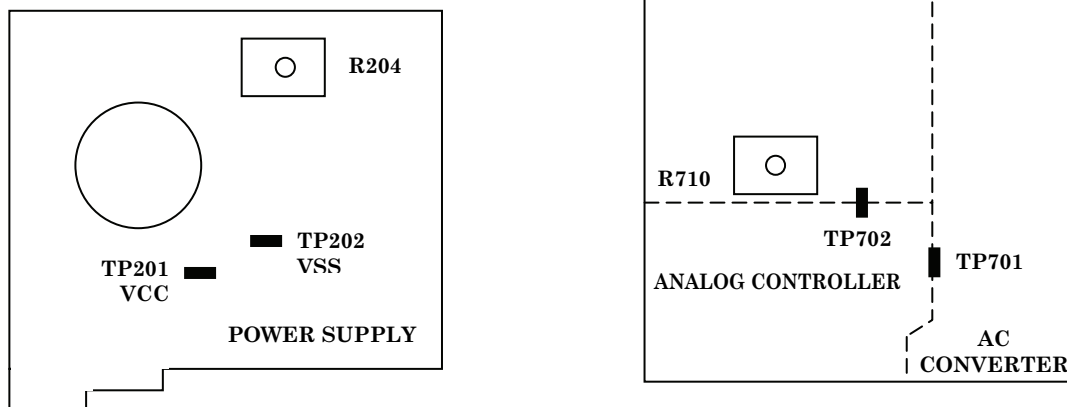

Figure 3. Power supply - adjustment locations.
(1) Connect multimeter **INPUT HI** to TP201 VCC and **LO** to TP202 VSS (fig. 3). If multimeter does not indicate between +4.9 and +5.2 V dc, perform **b** (1) below.
(2) Connect multimeter **INPUT HI** to TP701 and **LO** to TP702 (fig. 3). If multimeter does not indicate between +4.9 and +5.2 V dc, perform **b** (2) below.
(1) Adjust R204 (fig. 3) for a multimeter indication between +4.9 and +5.2 V dc (R).
(2) Adjust R710 (fig. 3) for a multimeter indication between +4.9 and +5.2 V dc (R).